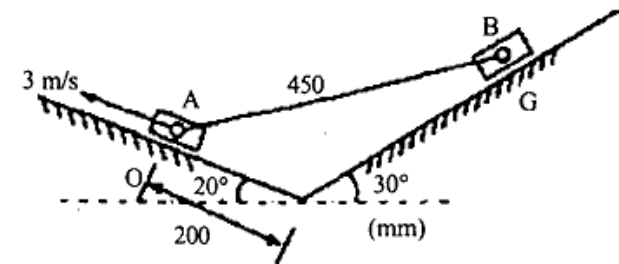

Figure 3
- b) For the position of the mechanism shown in Fig.3. Find the velocity of the slider B for the given configuration if the velocity of the slider A is 3 m/s .